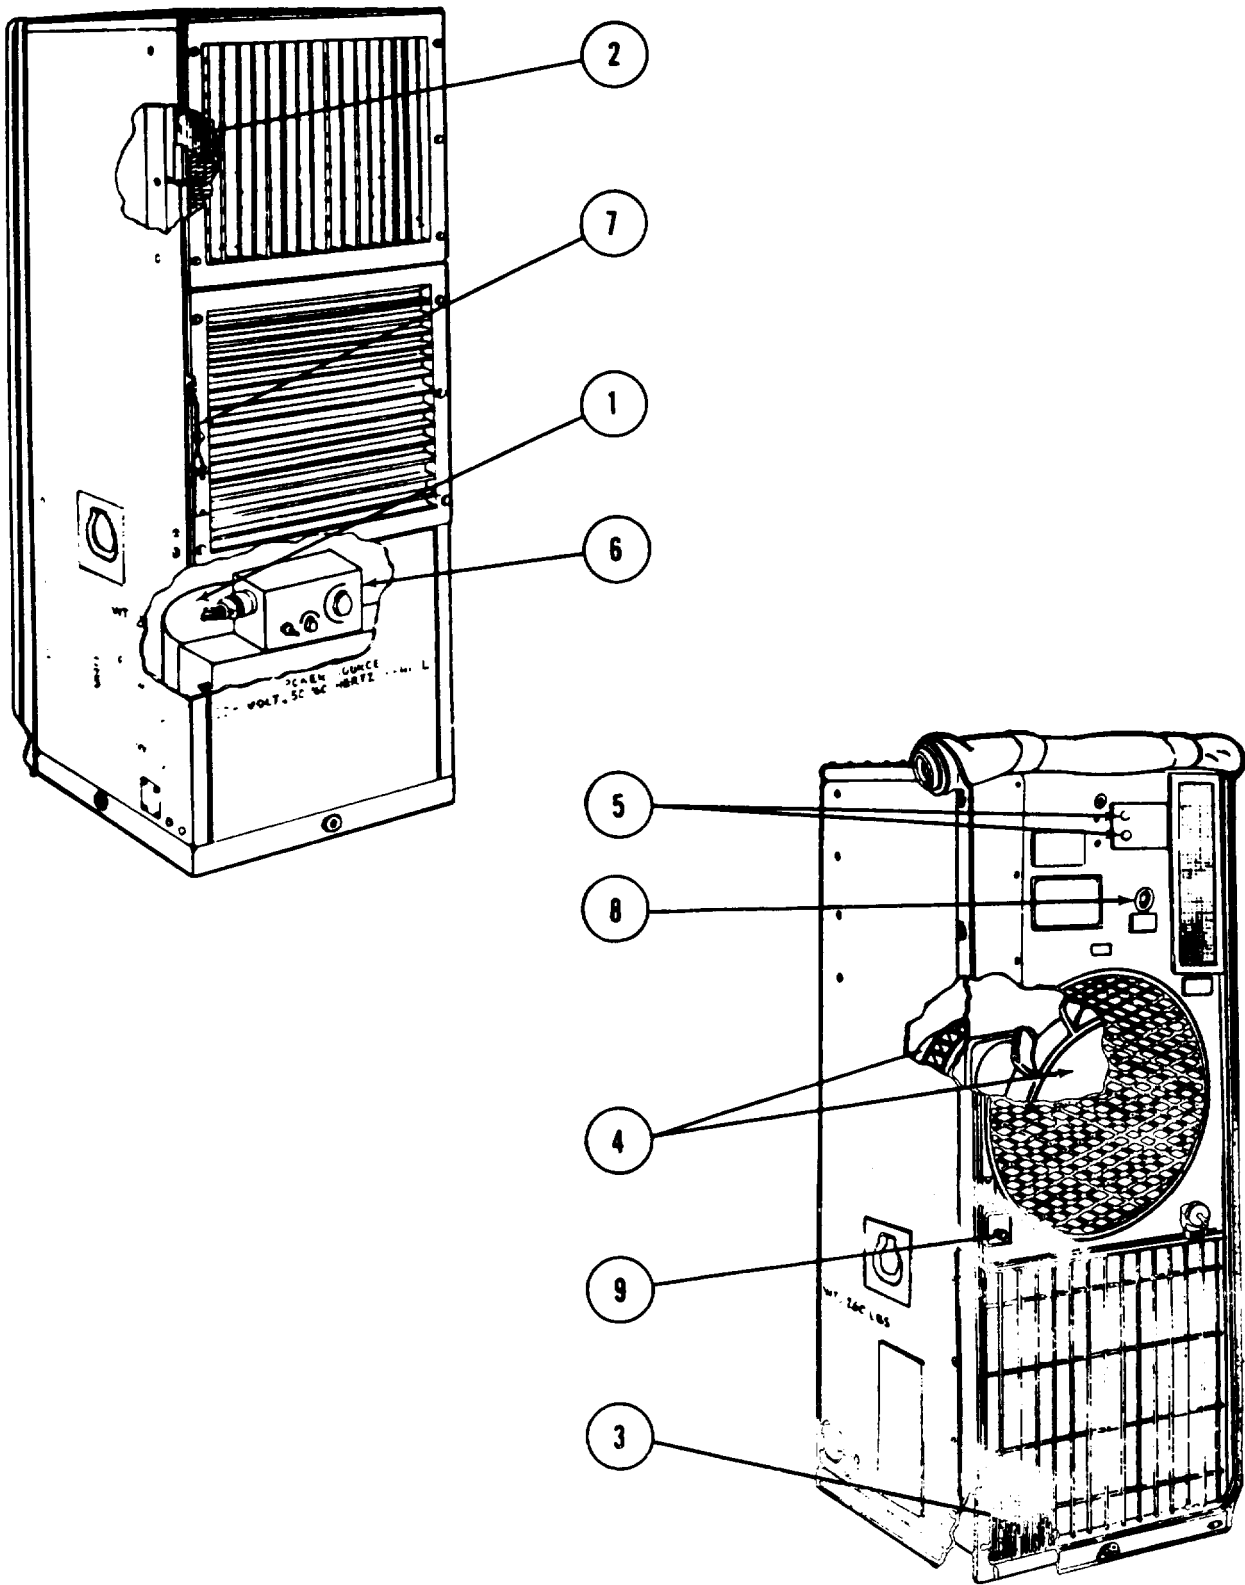

Figure 1-2. Location of Major Components
1.5. Location and Description of Major Components (see figure 1-2)